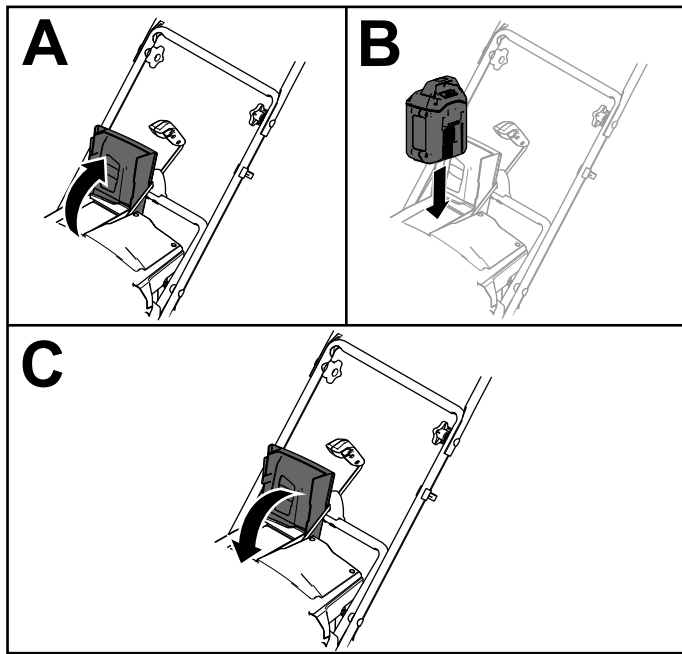

Figure 10
2. Lift up the battery-compartment lid (A of Figure 10).
3. Line up the cavity in the battery pack with the tongue on the machine and slide the battery pack into the compartment until it lock into place (B of Figure 10).
4. Close the battery-compartment lid (C of Figure 10).